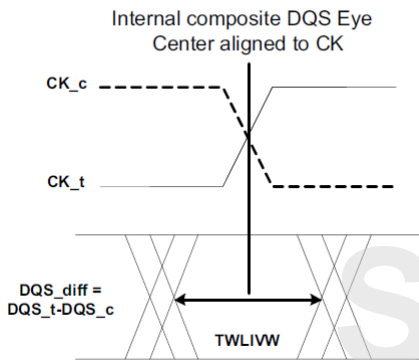

Figure 25.  $DQS\_t/DQS\_c$  to  $CK\_t/CK\_c$  timings at the DRAM pins referenced from the internal latch
28)  $t_{WLIWV}$  is defined in a similar manner to  $tdIVW\_Total$ , except that here it is a DQS input valid window with respect to CK. This would need to account for all VT (voltage and temperature) drift terms between CK and DQS within the DRAM that affect the write-leveling input valid window. The DQS input mask for timing with respect to CK is shown in Figure 25. The "total" mask ( $t_{WLIWV}$ ) defines the time the input signal must not encroach in order for the DQS input to be successfully captured by CK with a BER of lower than tbd. The mask is a receiver property and it is not the valid data-eye.